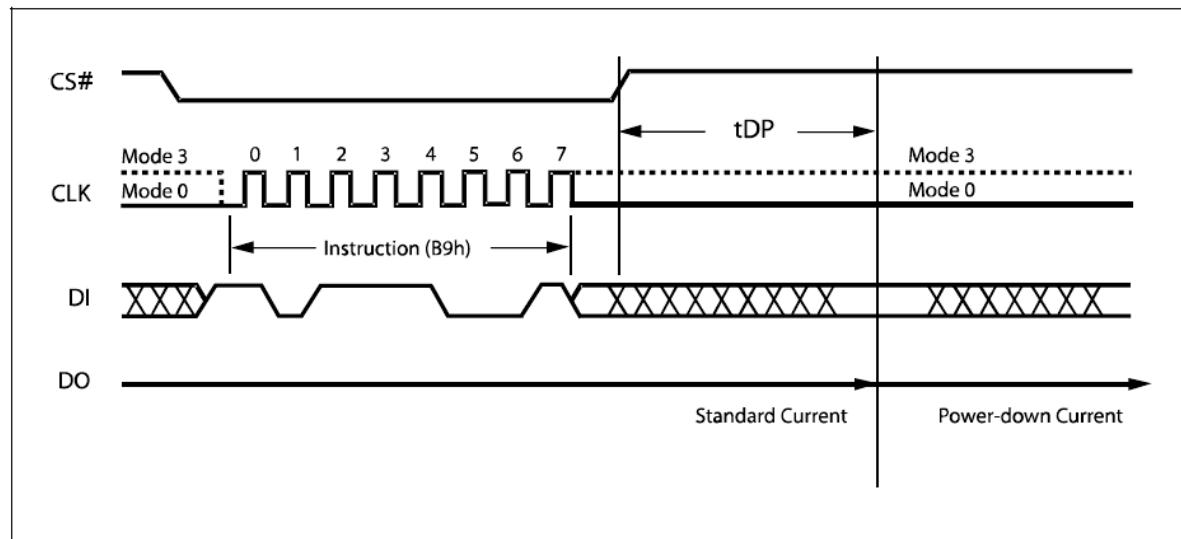

Figure 21. Deep Power-down Instruction Sequence Diagram
The instruction sequence is shown in Figure 21. Chip Select (CS#) must be driven High after the eighth bit of the instruction code has been latched in, otherwise the Deep Power-down (DP) instruction is not executed. As soon as Chip Select (CS#) is driven High, it requires a delay of  $t_{DP}$  before the supply current is reduced to  $I_{CC2}$  and the Deep Power-down mode is entered.